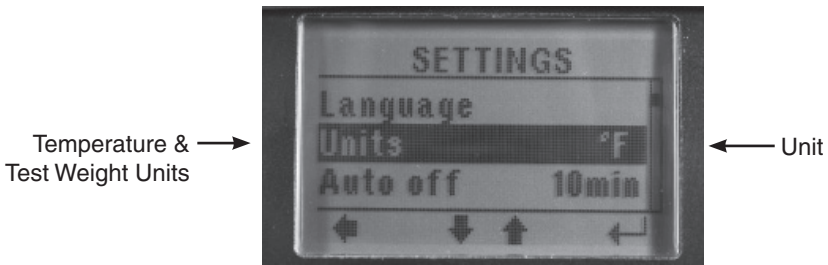

Figure 13. Temperature and Test Weight Units
3. Use UP/DOWN buttons to scroll to “Units” (Figure 13)